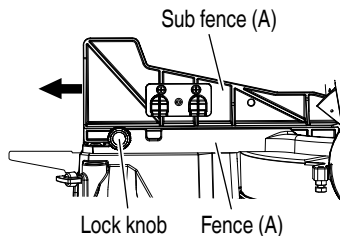

Fig. 16
This power tool is equipped with a sub fence (A). In the case of direct angle cutting and left bevel angle cutting, use the sub fence (A). Then, you can realize stable cutting of the material with a wide back face. When right angle cutting, loosen the lock knob, then slide the sub fence (A) outward, as shown in Fig. 16. When you slide sub fence (A) outward, if enough space cannot be secured or the sub fence (A) comes into contact with other parts of the tool including the motor, fully remove sub fence (A) from fence (A). Also, make sure to remove the lock knob from fence (A).